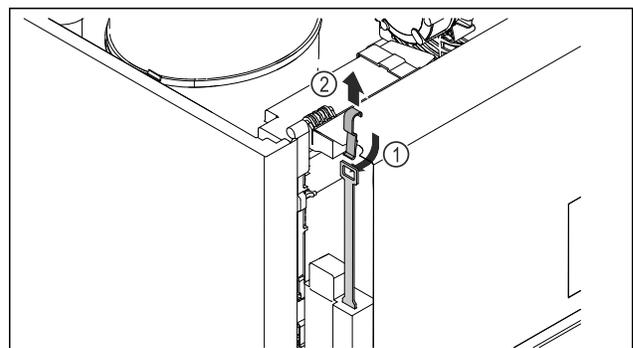

Fig. 207
- Push the emergency release key Fig. 207 (1) in from the top, hook it into the lock, and pull up Fig. 207 (2).